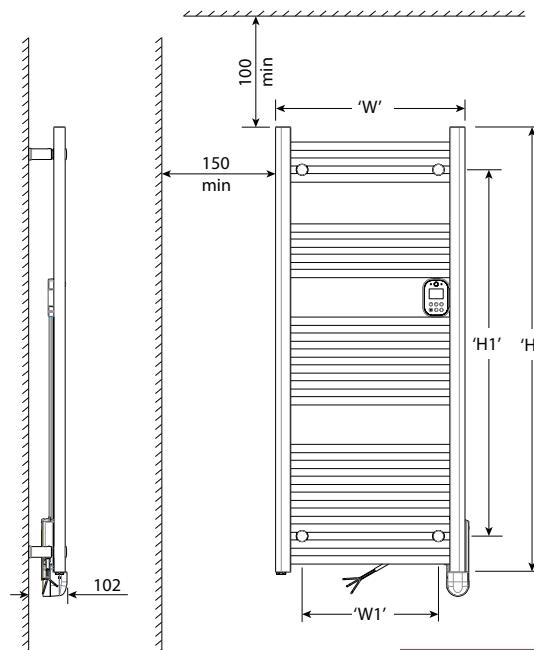

Fig. 1
See Fig.1. All dimensions are in mm.
**IMPORTANT** - The wall bracket kit supplied with the rail must be used and the rail must be installed in the correct orientation. The fixings should be used to secure the bracket to the particular wall on which the heater will be installed. The heater should be positioned observing the minimum clearances stated around the heater - see Fig. 1.
1. Mark suitable mounting hole positions for the fixing brackets (ensuring they are horizontal) - see Fig. 1, ensure to allow enough room above and below to maintain the minimum clearance stated.
5. Align the wall bracket sleeves on the towel rail according to the dimensions shown in Fig. 1.